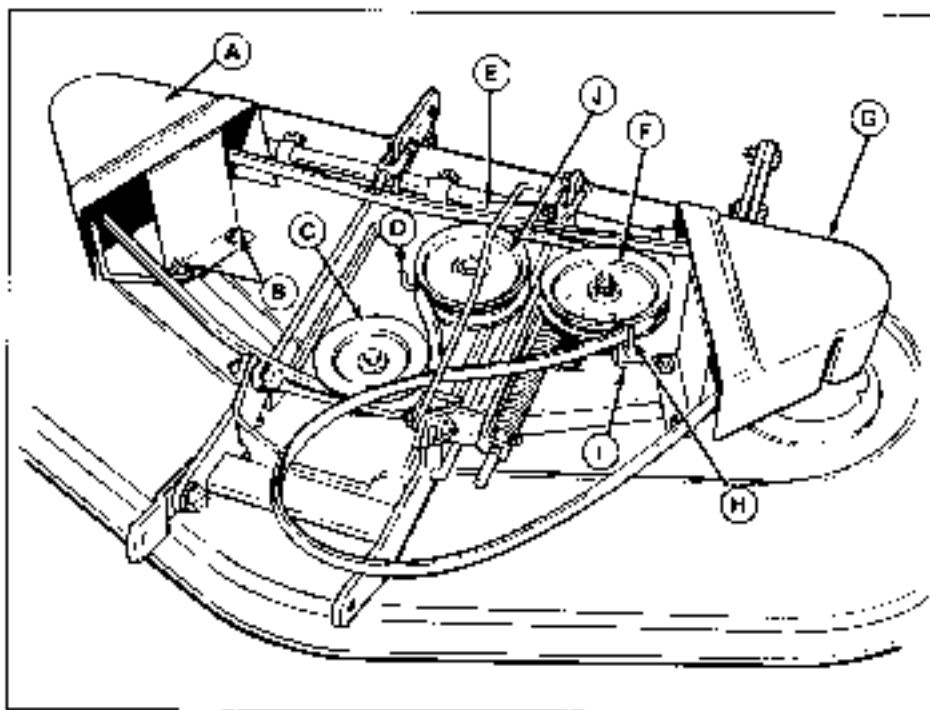

Figure 21. Mower Belt Replacement
2. Loosen the left belt stop (H, figure 21) enough to slip the belt off the pulley. Remove the right belt stop (D).
4. **42" mower only.** Remove the right arbor cover by removing two carriage bolts in front and two capscrews in rear (see figure 21). Remove the nut (H) and lockwasher (I) which secure left arbor cover to the idler pulley. Remove the two capscrews (K) and attaching hardware of the left arbor cover.